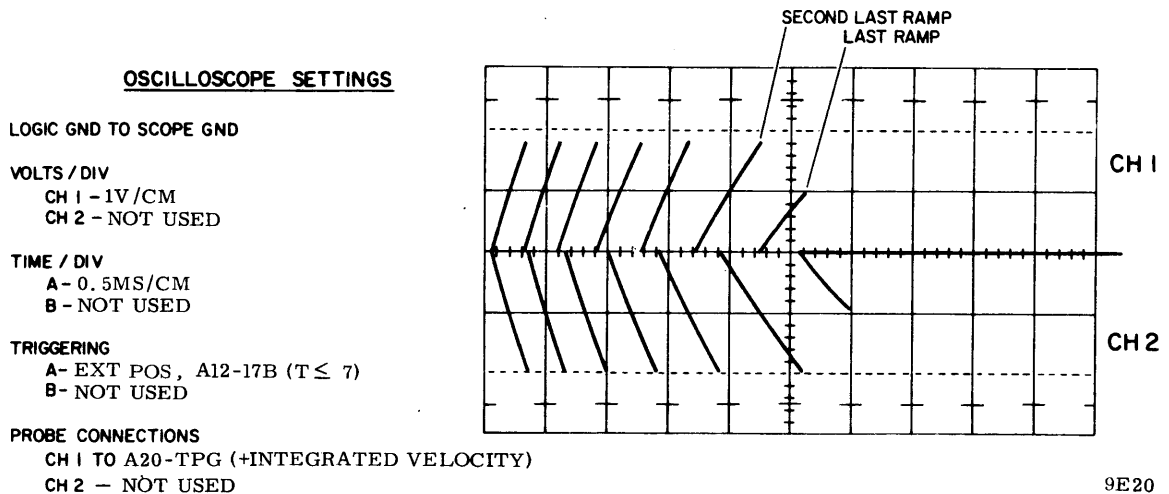

Figure 5-9. Integrated Velocity Waveform
2. Connect and setup oscilloscope as indicated on figure 5-9.
3. Command continuous seeks between cylinders 000 and 822 (410).
4. Observe waveforms as shown on figure 5-9, check to ensure that the amplitude of the second to last positive and negative ramps are each in the range from 1.8 to 2.2 V and the difference between the two is 0.3 V maximum. Note that the positive ramps are produced during forward seeks and negative during reverse seeks.